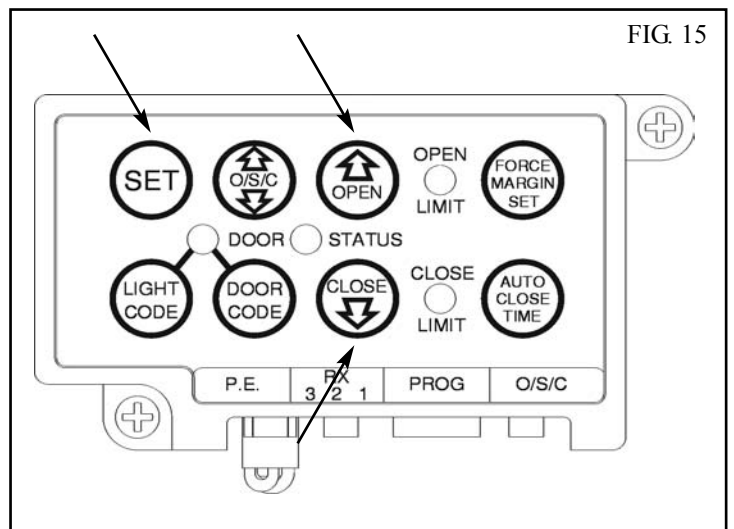

FIG. 15
4. Press the Close button (Fig. 15), the door will start closing. Release the button once you have reached your desired closed limit position.
5. Press the Set button (Fig. 15). This action will store into memory the closed limit position.
6. Press the Open button (Fig. 15), the door will start opening. Release the button once you have reached your desired opened limit position.
7. Press the Set button (Fig. 15). This action will store into memory the open limit position. The door will now automatically close to its limit position then fully open to calculate the safety obstruction forces (ISS). Please be aware of the above warning. The opener can now be operated from the O/S/C Button.
1. Press and hold the Close button (Fig. 15) for six (6) seconds until you hear three beeps and the red Close Limit LED starts to flash. Release the button.